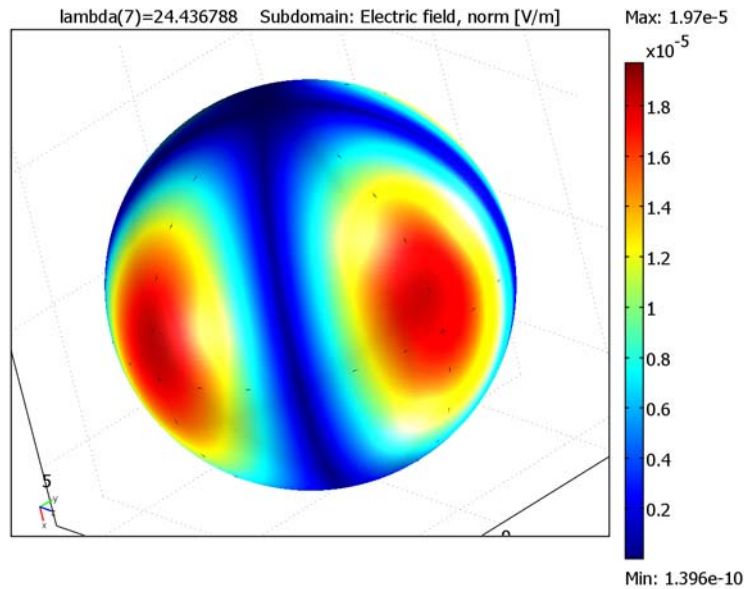

Figure 2-9: Norm of the electric field at the eigenfrequency of 24 Hz.
Figure 2-9 shows the norm of the electric field at the eigenfrequency of 24 Hz.
- 5 To reproduce the plot in Figure 2-9, click the **General** tab, select **24.426** from the **Eigenvalue** list, and click **OK**.